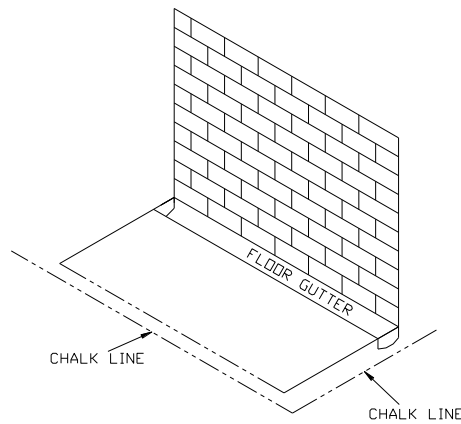

Figure 3.
1. Refer to the floor plan and select a starting point for assembling the runs (preferably on the end of a bank of runs at the intersection of the gate / stall front and outside division panel), which is best for your application. Once selected, identify the exact location of the outside corner of that run. Mark both sides of the corner on the floor with a chalk line (or other preferred method) as shown in Figure 3. **Important:** Make sure that the two lines are perpendicular and in the exact final location desired for the corner of your kennel and that the line coming from the wall is perpendicular to the wall.